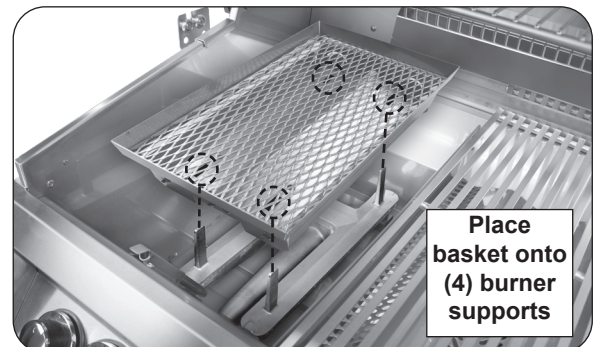
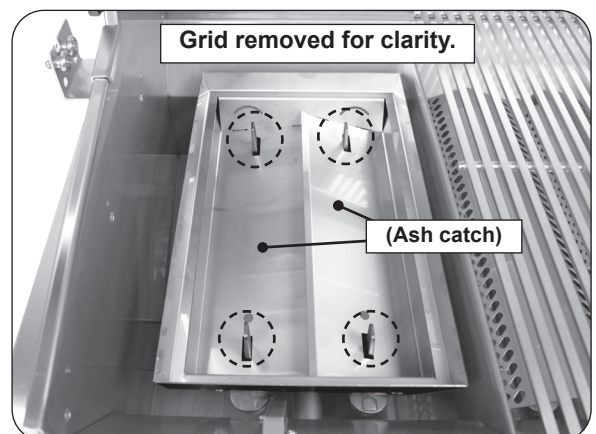

Fig. 33-3 Place basket onto burner
Fig. 33-4 Basket placement detail
3. Place basket onto burner in place of flavor grid. Align basket cutouts over burner supports (see Fig. 33-3 and Fig. 33-4).